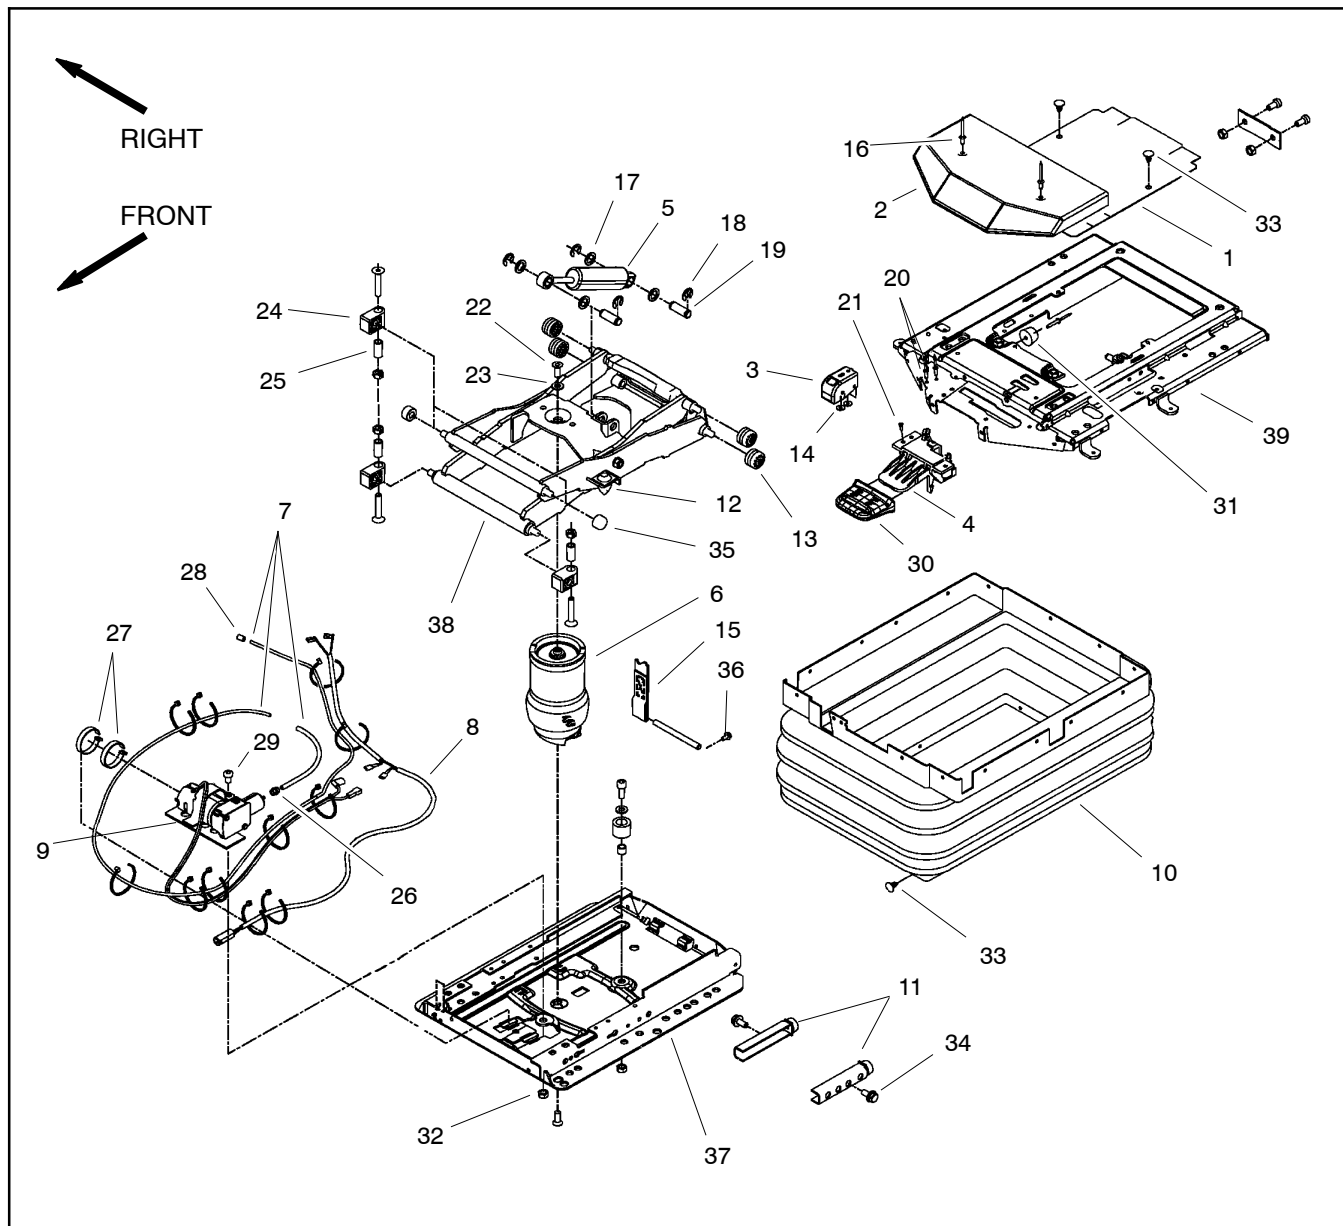
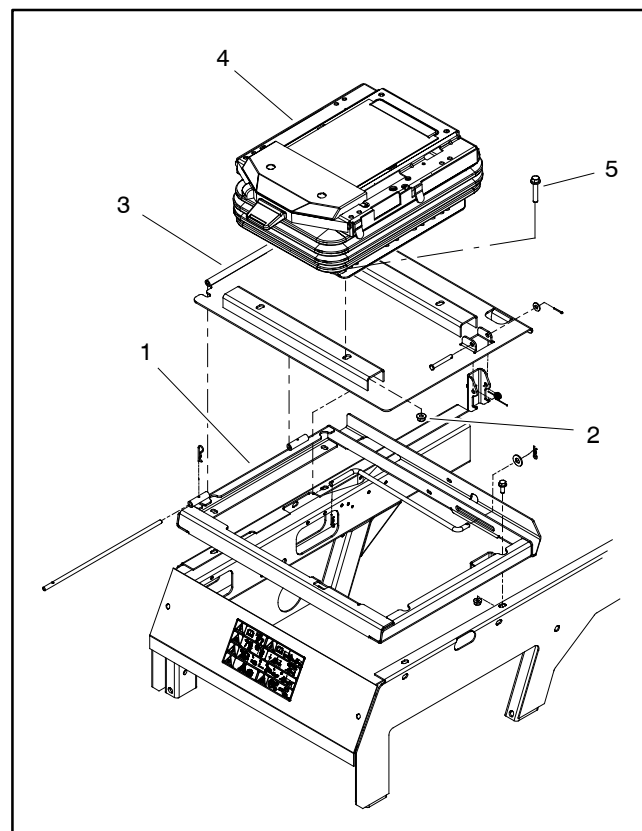

Figure 20
Figure 21
### Disassembly (Fig. 20)
4. If the air spring assembly (item 6) or base plate (item 37) requires removal, remove seat suspension from seat plate (Fig. 21):
B. Remove four (4) flange head screws and flange nuts that secure seat suspension to seat plate.
5. Remove seat suspension components as needed using Figure 20 as a guide.
### Assembly (Fig. 20)
1. Install all removed seat suspension components using Figure 20 as a guide.
2. If seat suspension was removed from seat platform (Fig. 21):
B. Secure seat suspension to seat plate with four (4) flange head screws and flange nuts.